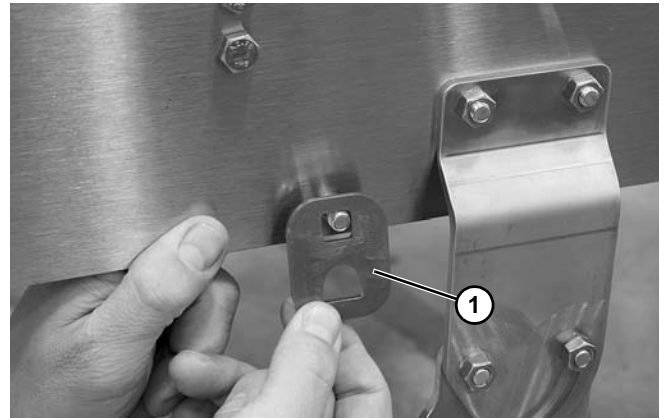

Figure 30
2. Install return bracket (Figure 30, item 1).